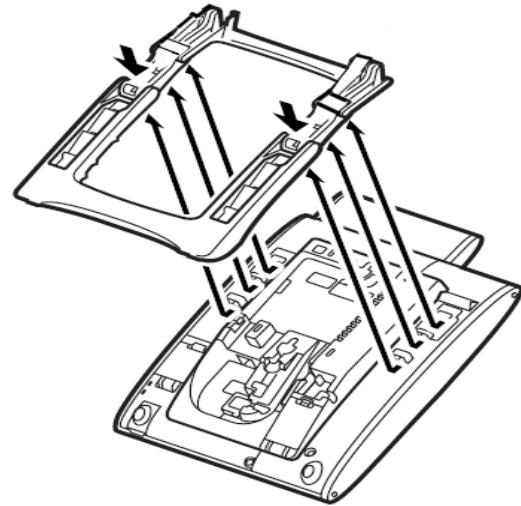

Figure 5-134 Remove Legs From Multiline Terminal
6. Press the two tabs locking the legs to the multiline terminal and pull the legs toward you, lifting to remove (refer to Figure 5-134 Remove Legs From Multiline Terminal on page 5-119).